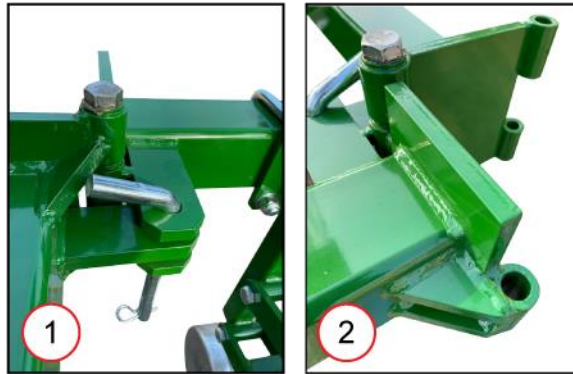

FIG. 6
Block the moving parts using the appropriate pins FIG. 6, pos.1 work and pos.2 transport. To restore the machine position, perform the same operation in reversed order.